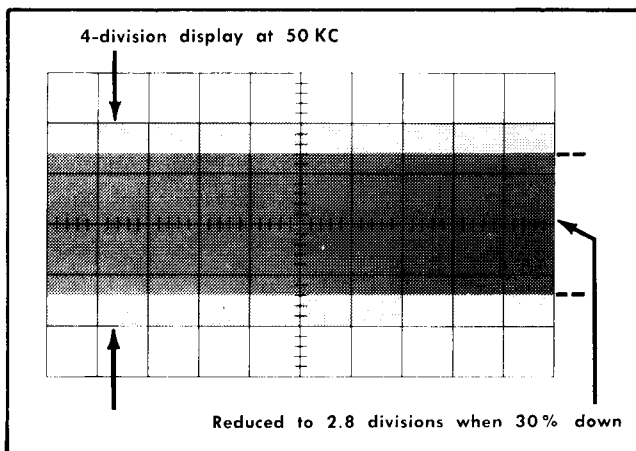

Fig. 6-29. Typical crt display when checking vertical frequency response.
- d. Without changing the output amplitude, increase the output frequency until the display is reduced to 2.8 divisions (see Fig. 6-29).
- i. Without changing the output amplitude, increase the output frequency until the deflection is reduced to 2.8 divisions (see Fig. 6-29).
- n. Without changing the output amplitude, increase the output frequency until the deflection is reduced to 2.8 divisions (see Fig. 6-29).
- s. Without changing the output amplitude, increase the output frequency until the deflection is reduced to 2.8 divisions (see Fig. 6-29).
- x. Without changing the output amplitude, increase the output frequency until the deflection is reduced to 2.8 divisions (see Fig. 6-29).
- ac. Without changing the output amplitude, increase the output frequency until the deflection is reduced to 2.8 divisions (see Fig. 6-29).
- e. Without changing the output amplitude, increase the output frequency until the deflection is reduced to 2.8 divisions (see Fig. 6-29).
- j. Without changing the output amplitude, increase the output frequency until the deflection is reduced to 2.8 divisions (see Fig. 6-29).